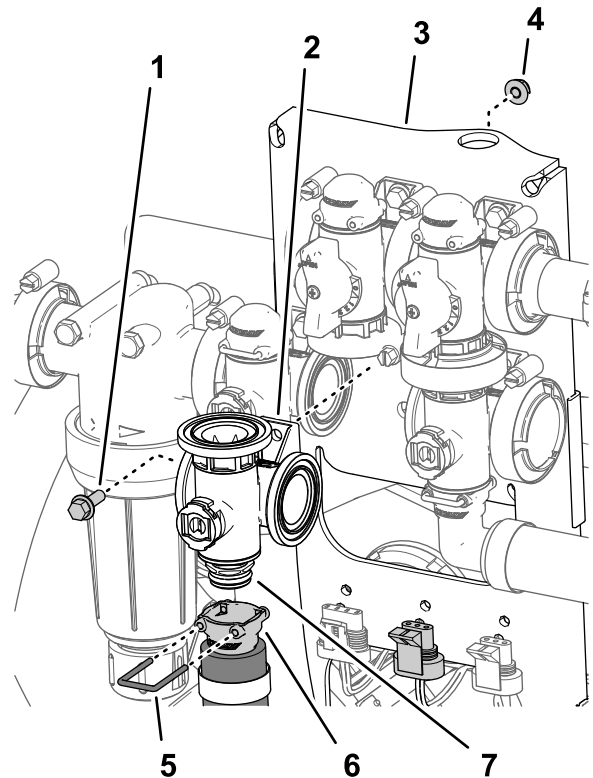

Figure 113
2. Remove the retainer that secure the quick-disconnect socket to the manifold quick-disconnect coupling for the agitation valve (Figure 113).
3. Remove the flange-head bolt (1/4 x 3/4 inch) and flange locknut (1/4 inch) that secure the agitation valve to the valve mount and remove the valve manifold from the machine (Figure 113).